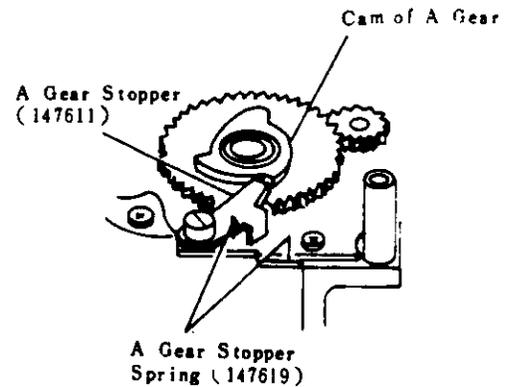
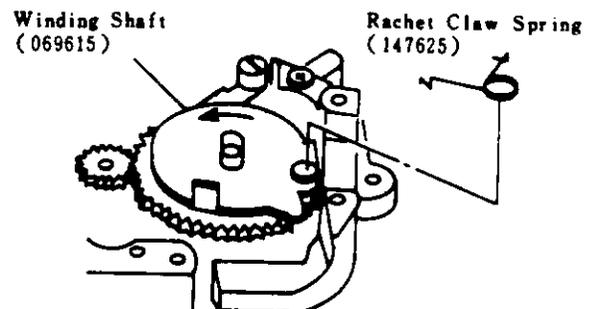

Fig 29
Fig 30
- e) Install A Gear (147603) in position shown in (Fig 29). Install A Gear Stopper Spring (147619) and A Gear Stopper (147611).
Hook A Gear Stopper Spring with A Gear Stopper as show in (Fig 29).
- f) Remove Ratchet Claw Spring (147625) from Winding Shaft Ass'y (069615) Insert the Winding Shaft Ass'y in the position as shown in (Fig 30).
- k) Turn the Winding Shaft Ass'y in the direction of arrow as shown in (Fig 30) and hold the Set Cam Plate by the Anti-Rewind Claw on the halfway.
- o) Hook Ratchet Claw Spring (147625) with Winding Shaft Ass'y as shown in (Fig 30). And Remove Bond paper tape from Sprocket.
(3) Reassembling of Counter Base Plate Ass'y.
- a) Make the position which A Gear Stopper (147611) is engaged with the cam of A Gear (147603) as shown in (Fig 29).